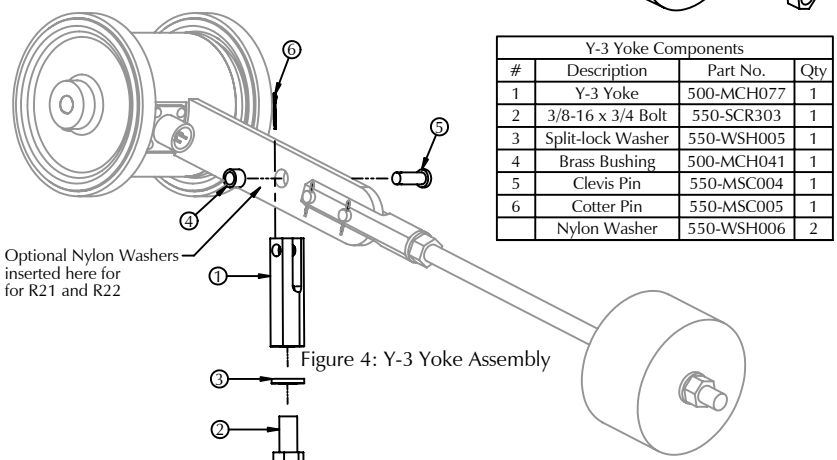

Figure 4: Y-3 Yoke Assembly
3. Assemble the Y-3 yoke assembly (figure 4).